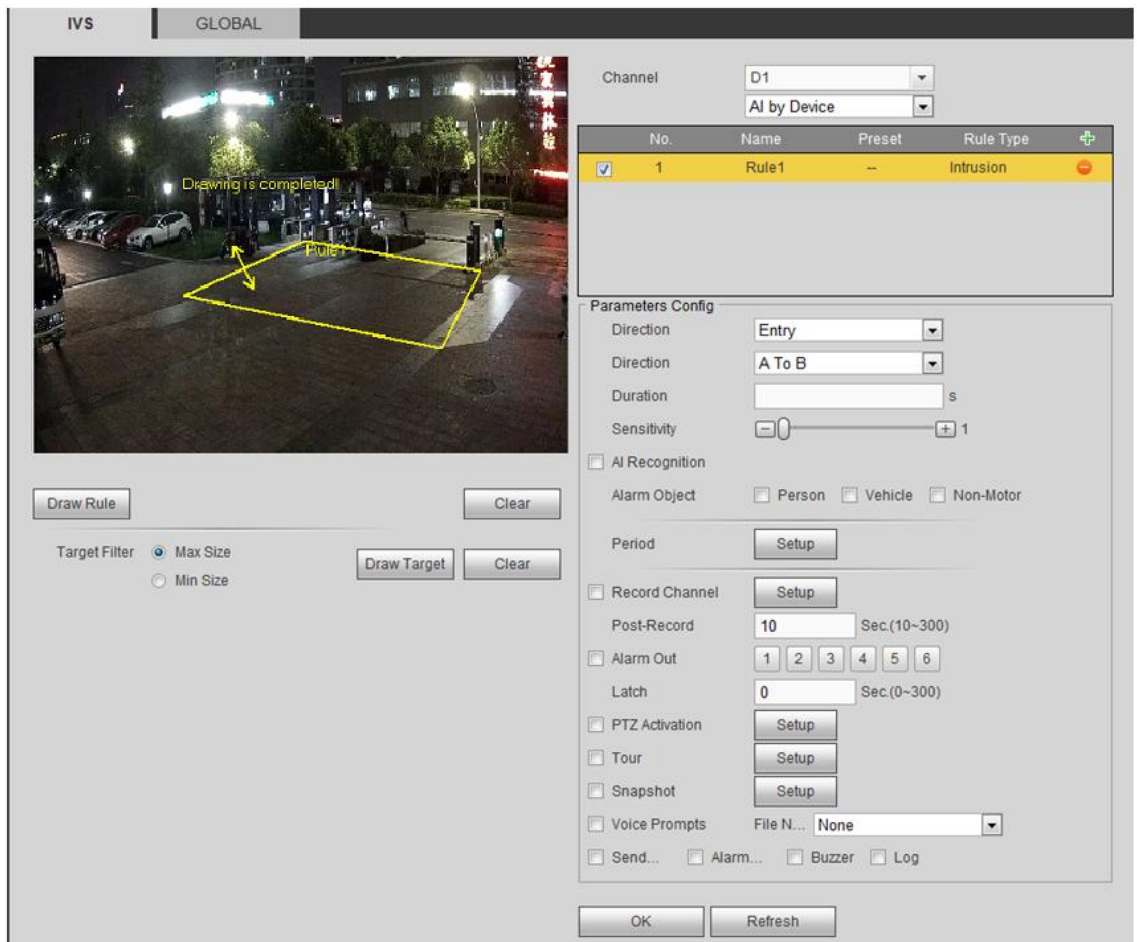

Figure 5-71
- When you select AI by NVR, the system displays as Figure 5-71.